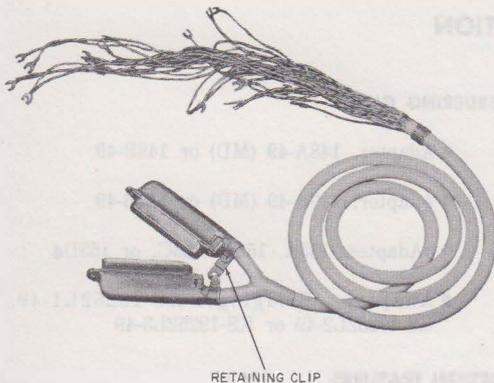

Fig. 1—148A (MD) or 148B Adapter
148A (MD) and 148B Adapters (Fig. 1)
- Connectors are held together protectively by a retaining clip (Fig. 1) for protection during shipment.